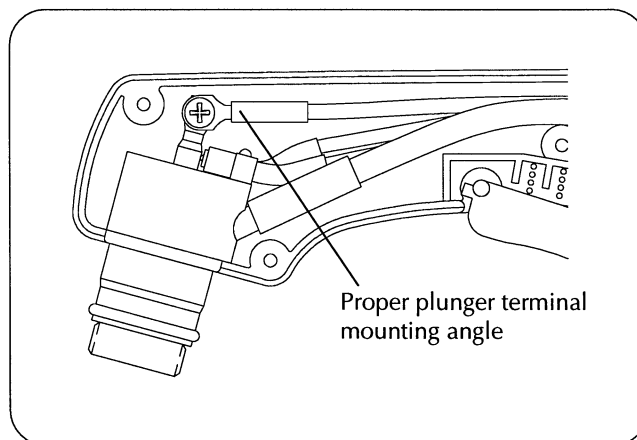

Figure 9
6. Replace the new torch main body by reversing instructions 1-4. Note: When connecting the plunger wire, be certain to keep the plunger wire terminal at the angle shown in Fig. 9. Tighten the plunger screw with 8 lb-in (9 kg-cm) of torque.